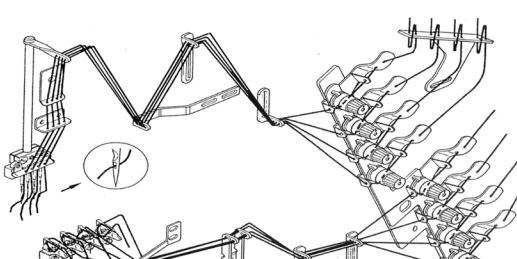

图9(Fig.9)
1. Refer to the sewing type you need for correct threading .Any incorrect threading may cause thread brake 、 uneven stitches or skip stitches. (Fig.9)
1.Thread tension ,should be adjusted in regarding to kinds of threads fabrics, thickness of fabrics ,and stitch length etc. (Fig.9)